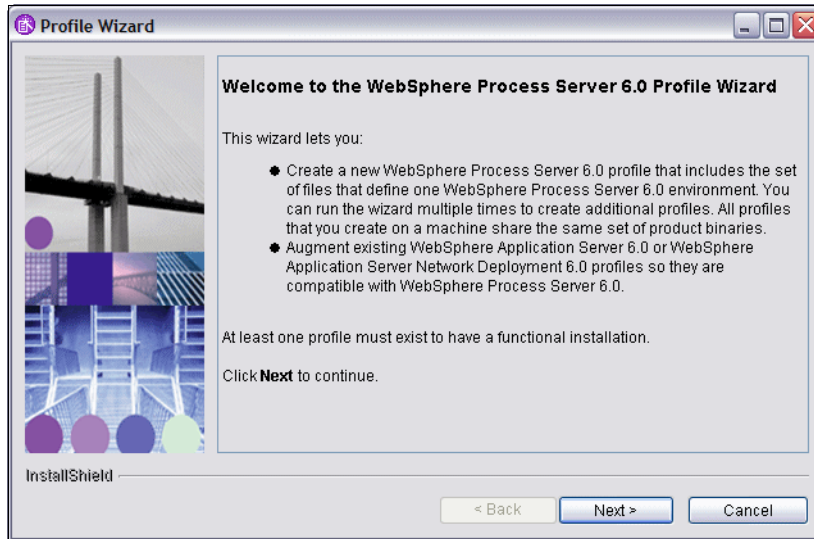

Figure A-21 WebSphere Process Server: Profile Wizard
- ▶ The Profile Wizard starts (Figure A-21). Click *Next*.